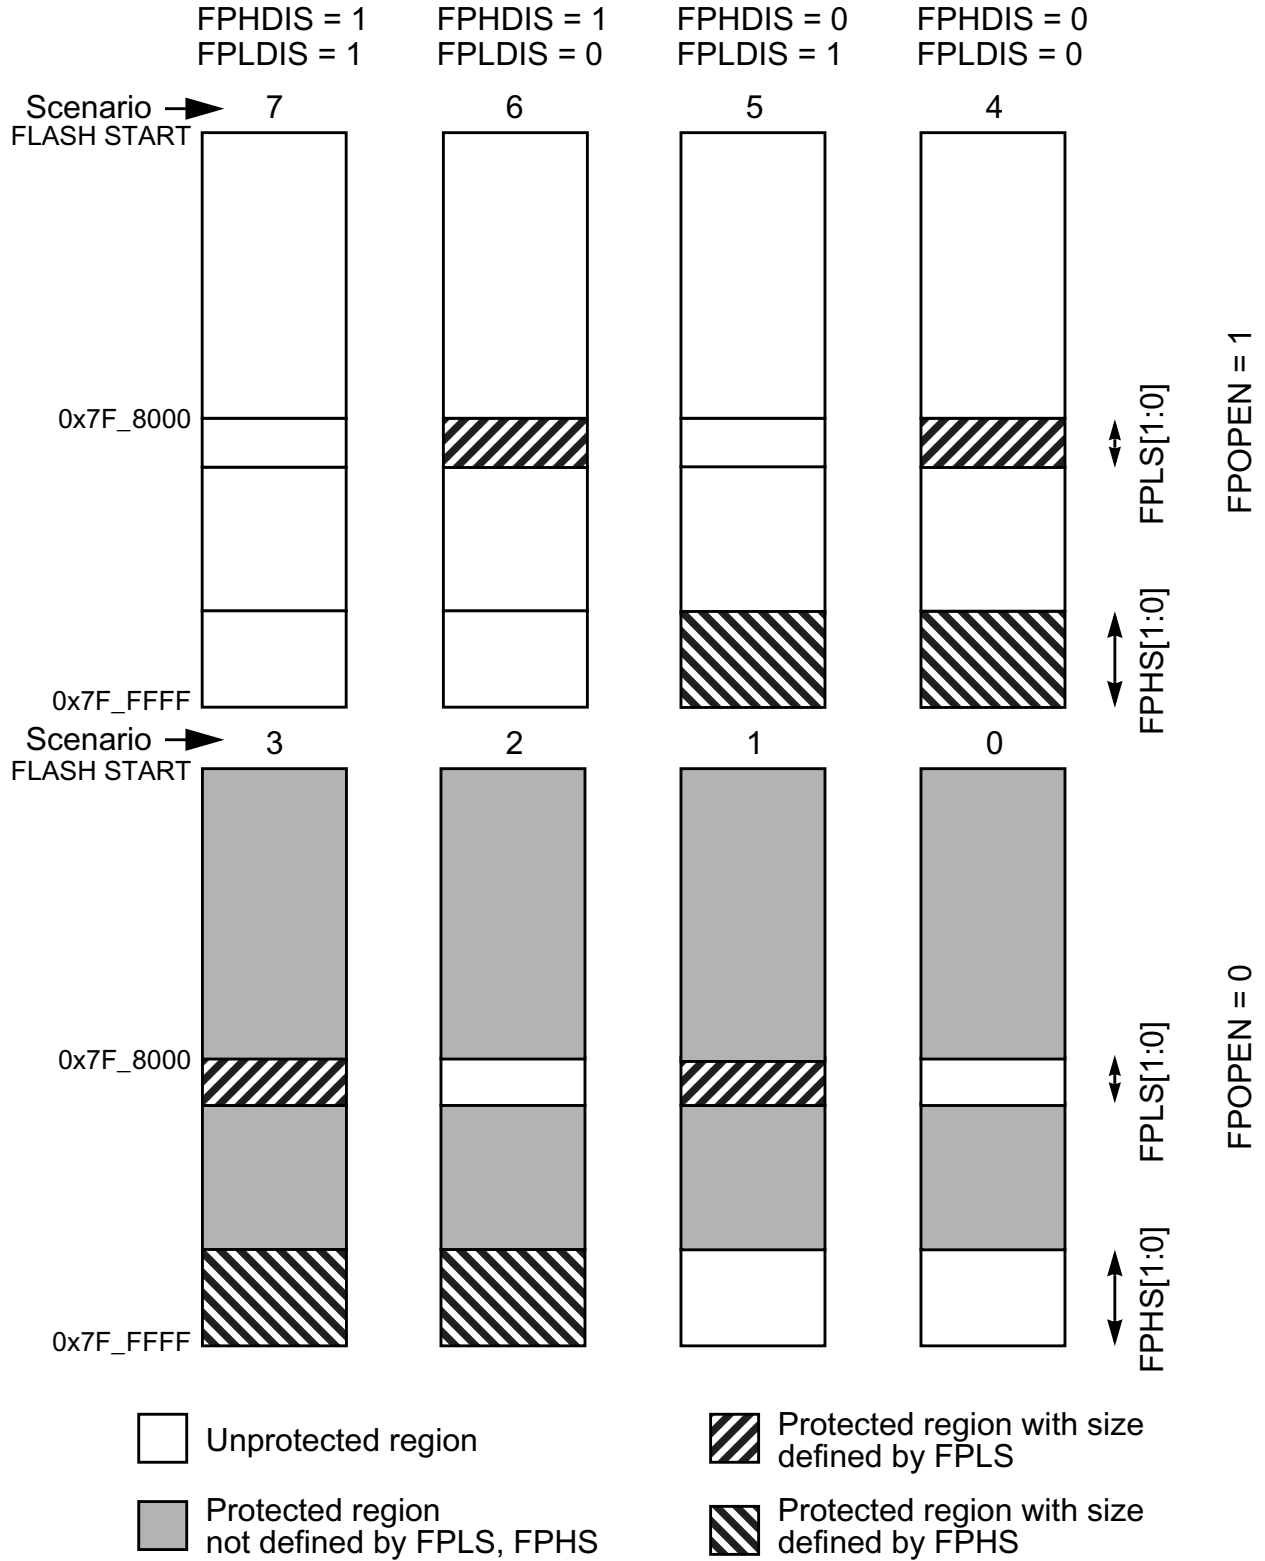

Figure 27-14. P-Flash Protection Scenarios
All possible P-Flash protection scenarios are shown in Figure 27-14. Although the protection scheme is loaded from the Flash memory at global address 0x7F_FF0C during the reset sequence, it can be changed by the user. The P-Flash protection scheme can be used by applications requiring reprogramming in single chip mode while providing as much protection as possible if reprogramming is not required.
1. Allowed transitions marked with X, see Figure 27-14 for a definition of the scenarios.